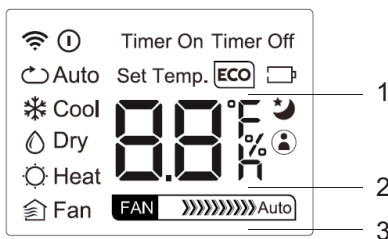

fig. 6 -
1. **ECO mode** (part. 1 "fig. 6 -") (the indoor unit display shows the "E-C-O" letters one by one, followed by the temperature setpoint). The "energy saving" mode is only available in COOL mode by pressing the "ECO" button. If the temperature setpoint is lower than 24°C, by activating the "ECO" mode the temperature setpoint is automatically set to 24°C and fan speed to "Auto" to save energy. If the temperature setpoint is higher than 24°C, by activating the "ECO" mode the temperature setpoint does not change and fan speed is set to "Auto". To stop the "ECO" mode, either press the "ECO" button, or choose another operation mode, or choose a temperature setpoint lower than 24°C
2. **SLEEP function** (part.2 "fig. 6 -"). Pressing the "SLEEP" button to preset the machine in night mode. The SLEEP mode is indicated by the symbol on the display. The set point temperature will be increased (in cooling operation "COOL") or decreases (in hot operation "HEAT") 1 ° C at predetermined intervals to a maximum of 2 ° C. SLEEP function stops automatically after 8 hours and the unit will continue operation by keeping the last setpoint. The function is not available in "FAN" and "DRY" modes.
3. **FOLLOW ME function** (part.3 "fig. 6 -"). Activated in HEAT - AUTO - COOL mode operation. The remote control will send this signal to the air conditioner every 3 minutes interval until press the Follow Me button again. The air conditioner will cancel the Follow Me feature automatically if it does not receive the signal during any 7 minute interval.